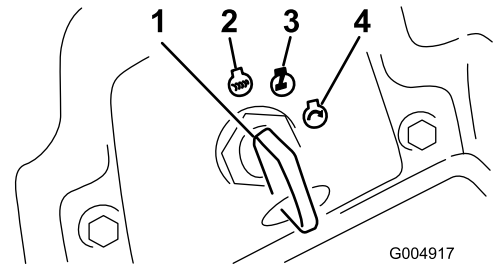

Figure 16
6. Turn the ignition key clockwise to the Run position (Figure 16).
- Turn the ignition key to the Off position (Figure 16). Wait for all moving parts to stop before leaving the operating position.